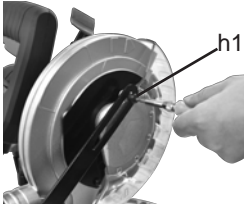

Fig.18
1.Release the screw (h1) to remove the guard retraction arm (6).**(Fig. 18)**